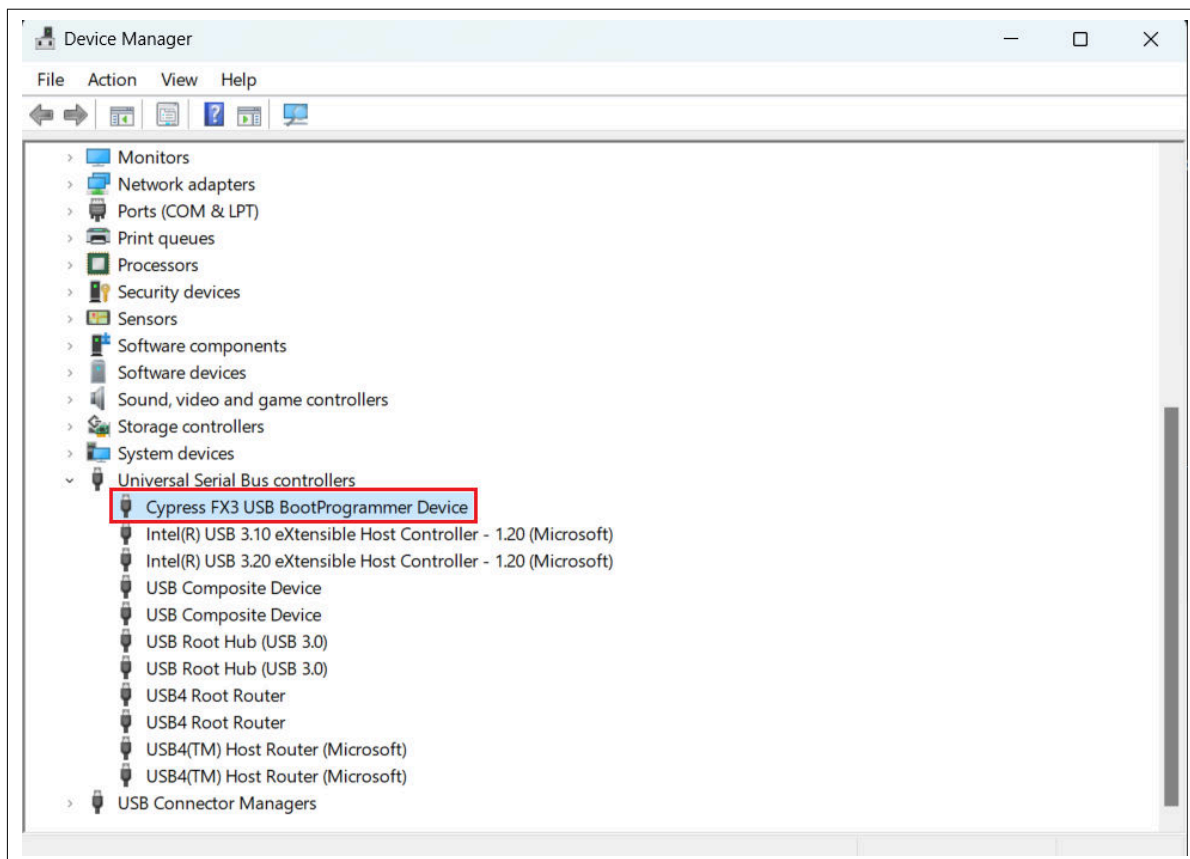

Figure 54 EZ-USB™ FX3 under Universal Serial Bus Controllers
7. If you have connected the X502 jumper on the 6M board, you should see the device **Cypress FX3 USB Boot Programmer Device** listed under the **Universal Serial Bus controllers** tab in the Device Manager, as shown in Figure 54